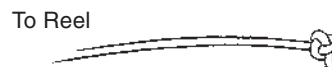

Figure 4.7 Stopper knot
**STEP 1.** Replace the cord on the reel using a stopper-knot (Figure 4.7).